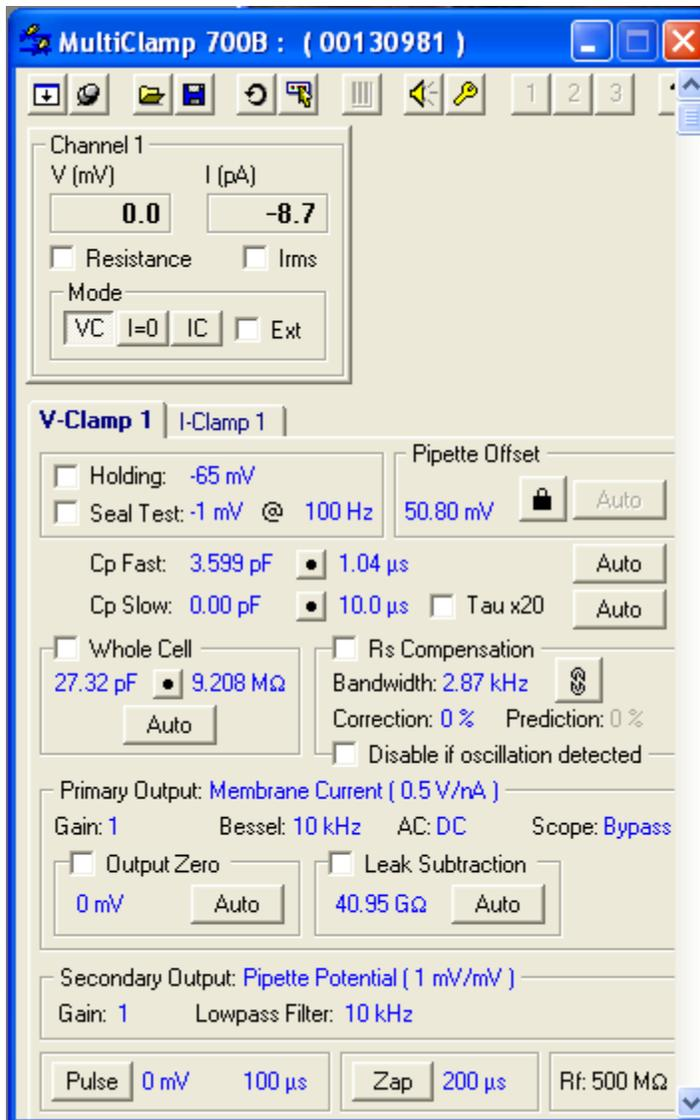

Figure 3: Settings in the Multiclamp commander before Autopatcher program is executed
5. Open the Multiclamp 700B commander program. (See **Fig. 3**)